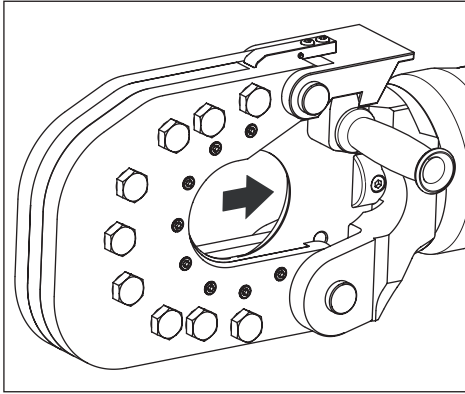

Figure 8, Piston and Blade in Home Position (fully retracted)
Always be sure that the piston and moving blade are in the fully retracted "home" position before placing any material inside the cutting head. See Figure 8.
2. Be sure that the piston is in the "home" (fully retracted) position. See Figure 8.
1. Start the pump. Move the piston to the “home” position (fully retracted). See Figure 8.